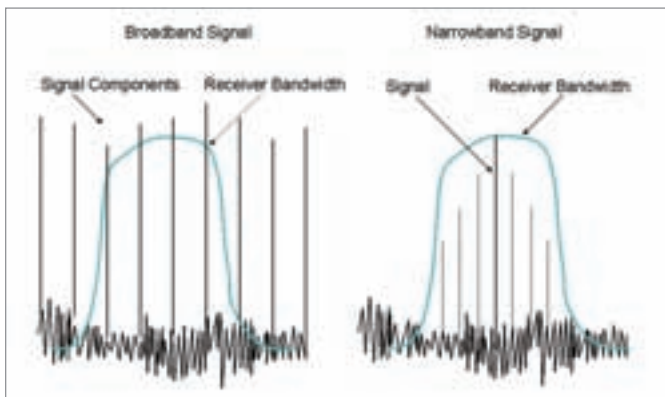
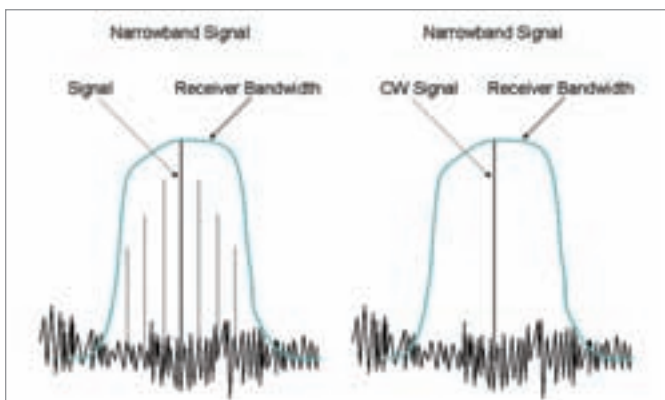

Figure 1: Generic definition of narrowband and broadband signals
Figure 2: Two different types of narrowband signals
In the field of EMC, the two main categories of signals encountered are of particular importance: narrowband signals and broadband signals. The International Electrotechnical Vocabulary (IEV) defines a narrowband disturbance as “*an electromagnetic disturbance, or component thereof, which has a bandwidth less than or equal to that of a particular measuring apparatus, receiver or susceptible device.*” Consequently, a broadband disturbance is defined as “*an electromagnetic disturbance which has a bandwidth greater than that of a particular measuring apparatus, receiver or susceptible device.*” This means that the classification of a signal as narrowband or broadband is determined by the occupied frequency spectrum of the signal under investigation, relative to the resolution bandwidth (RBW) of the instrument used for measurement. If the signal spectrum is completely contained in the passband of the IF filter, it is defined as a narrowband signal. The general definition of a narrowband and broadband signal is depicted in Figure 1. It is important to note that continuous wave (CW) signals are a specific case of narrowband signals, since they consist of only one spectral line which is within the passband of the intermediate frequency (IF) filter. This case is depicted in Figure 2 (right). If the occupied signal spectrum exceeds the bandwidth of the filter, the signal is considered to be broadband. This is the case for the spectra of pulses (which are coherent signals) and noise (non-coherent signals). This scenario is shown in
Figure 1 (left). This article presents various methods that are suggested for the determination of signal characteristics in EMC standards and literature. It also discusses their advantages and disadvantages. The presented material builds on previous papers that addressed the measurement of impulsive signals and discussed test equipment parameters such as the definition of impulse bandwidth and the purpose of preselection. Therefore, this article will defer to previous publications for details, as necessary.